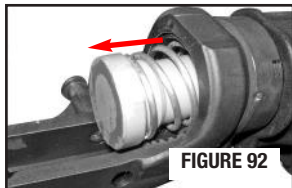

FIGURE 92
- Remove buffer and spring from the buffer tube (FIGURE 92).